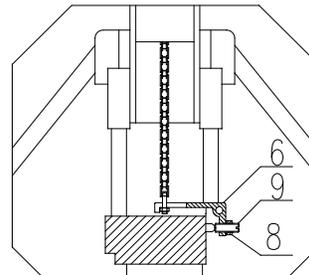

Figure 4
- 4.2. Use the screw (item 9) in Figure 4 to adjust the pallet truck. After lifting the pallet truck body, turn the screw a little counter-clockwise when it drops. Then repeat this process until the body of the pallet truck lifts normally. The outer hex nut (item 8) on the screw performs the locking function of the pallet truck. Before adjustment, you must unscrew the nut. Be sure to put the nut back after screwing in.